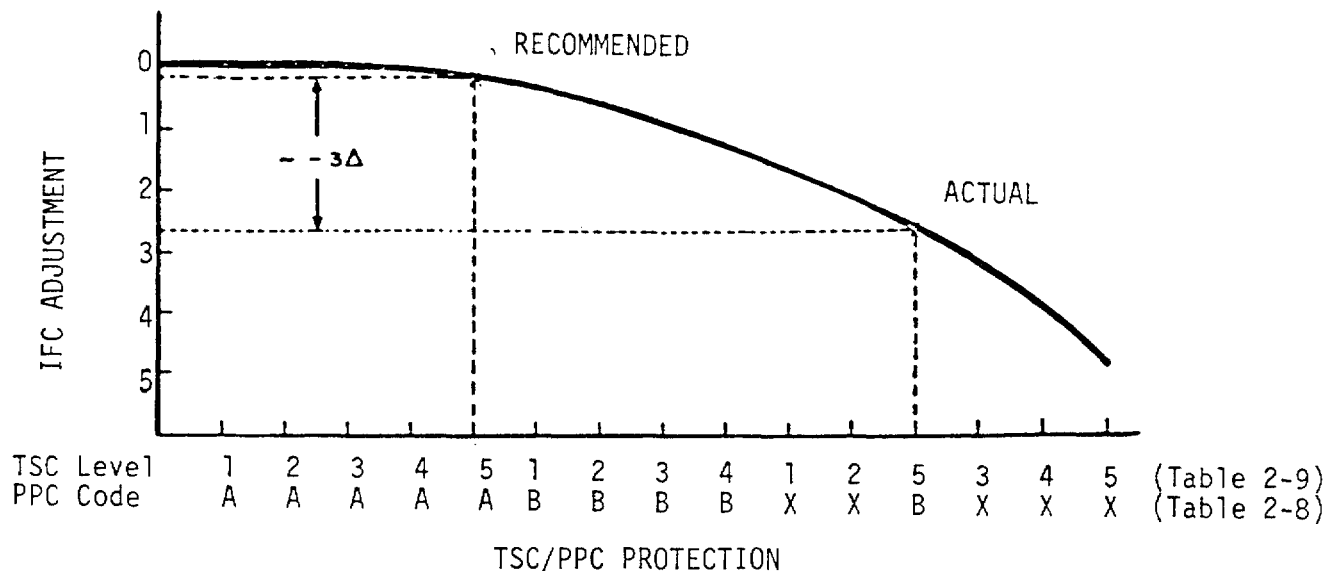

Figure 2-1. Inspection Frequency Adjustment
(2) A Curve Depicting Frequency Adjustments is Given in Figure 2-1.